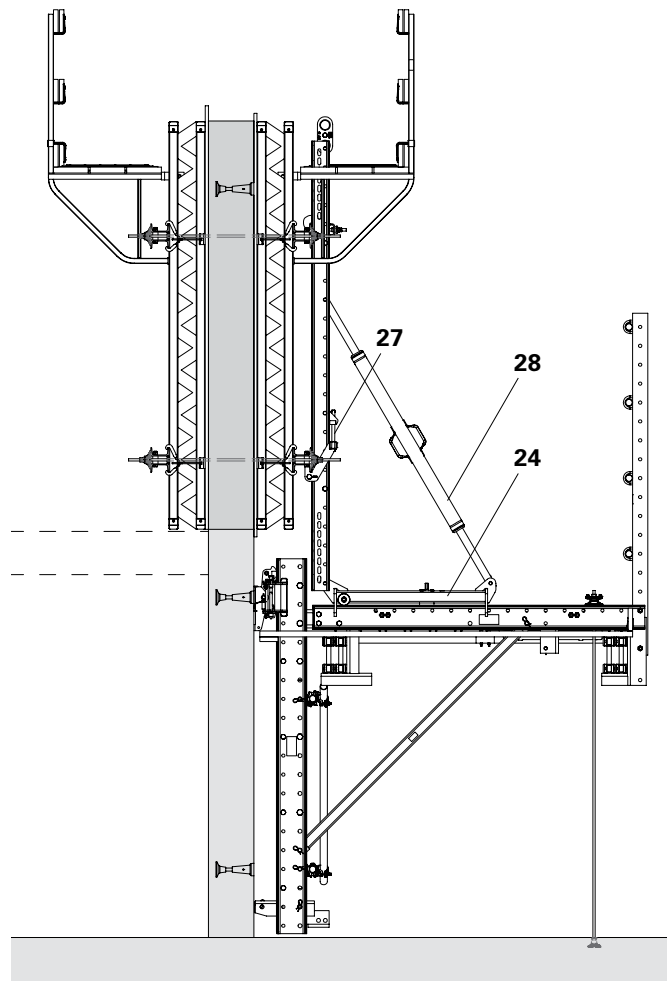

Fig. C3.09
1. Move the Carriage (24) to the concreting position.
2. Align the formwork with the Formwork Spindle (28) and the Adjusting Unit SRU (27) both vertically and horizontally.
- (Fig. C3.09)